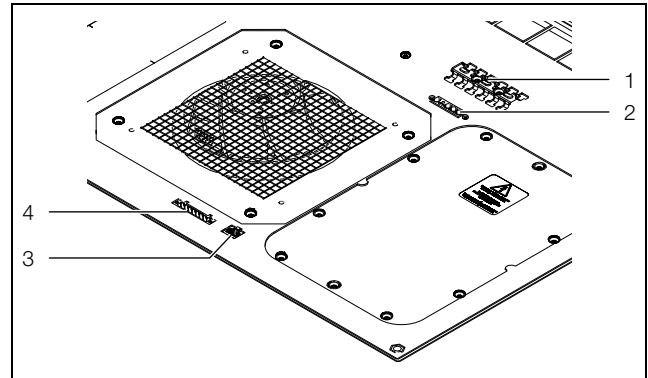

Fig. 7: Fasteners at the bottom of the roof-mounted cooling unit
- The cable shield can make contact with the T-rail (fig. 7, item 1).